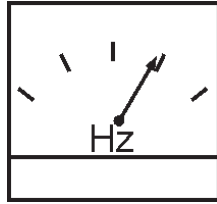

Figure 45. Frequency Meter (Hz)
6. The generator's frequency meter (Figure 45) should be displaying the 60 cycle output frequency in **HERTZ**.